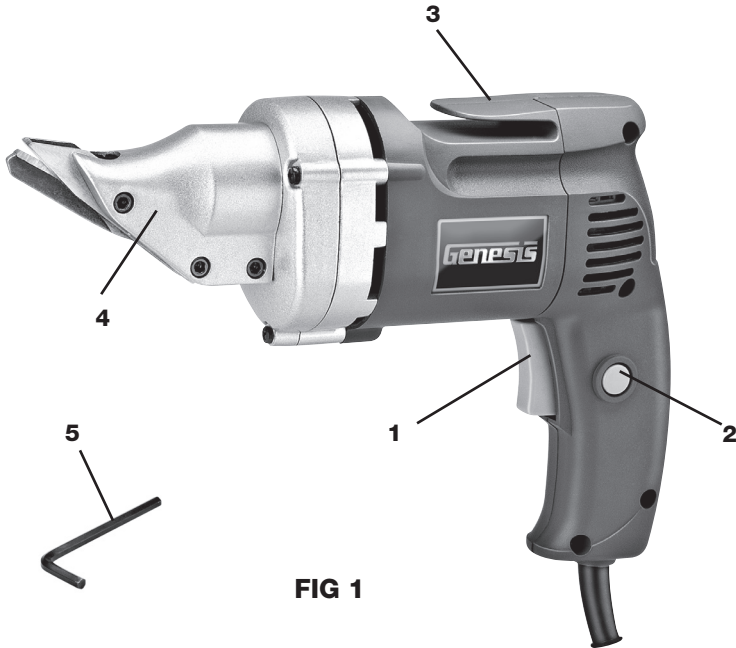

FIG 1
- Squeeze the Trigger Switch (1-FIG 1) to turn on the shear. Release the Trigger to turn off the shear.
- For continuous operation, press the Lock-On button (2-FIG 1) on the side of the handle. The Lock-On button will deactivate once the Trigger is released.